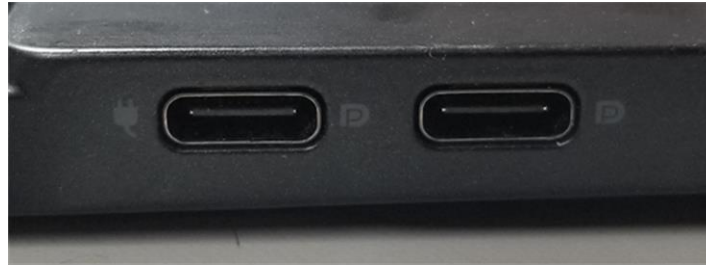

图 9. Example USB-C™ Port with DisplyPort Functionality. (Marked with DisplyPort logo)
- USB-C™ port enabled for DisplyPort Alt Mode. See 图 9 for example.